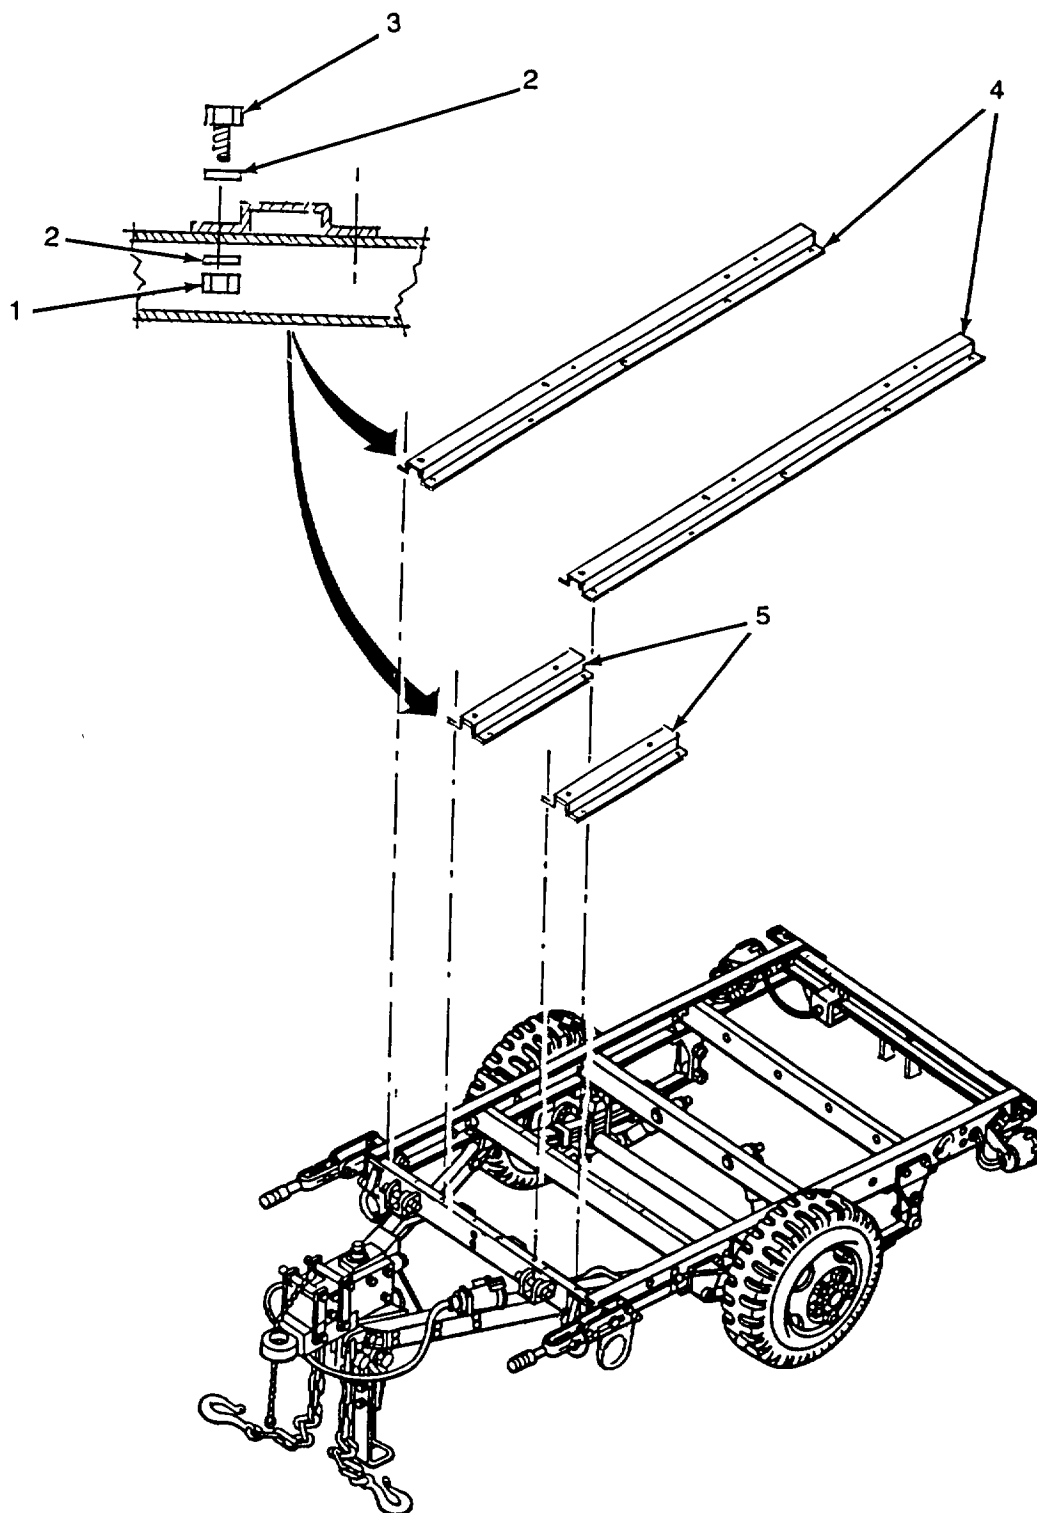

Figure 5-5. Mounting Rails.
**5-8. MOUNTING RAILS (Figure 5-5).**